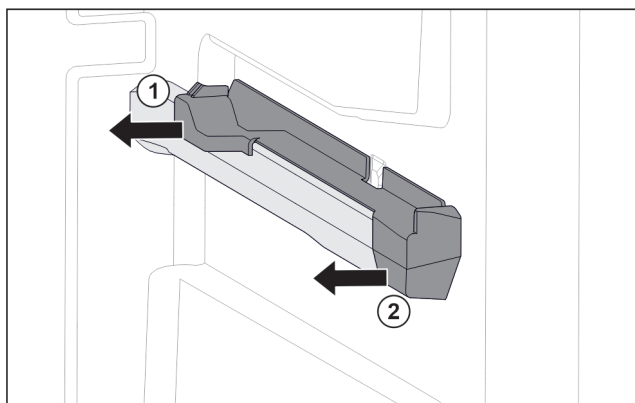

Fig. 46 Attachment on the right molded rib
- Pull off attachment at the back sideways. Fig. 46 (1)
- Pull off attachment at the front sideways. Fig. 46 (2)